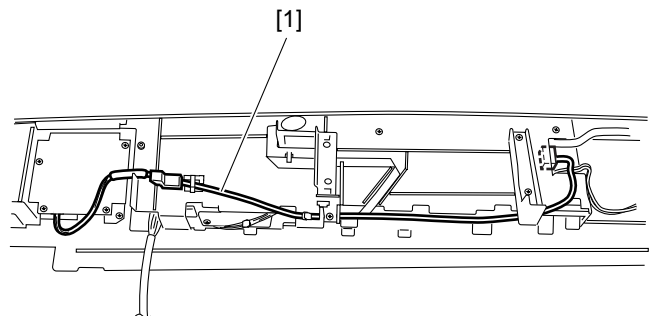

Figure 8-505
- 6) Route the cable [1] as shown in Figure 8-505.